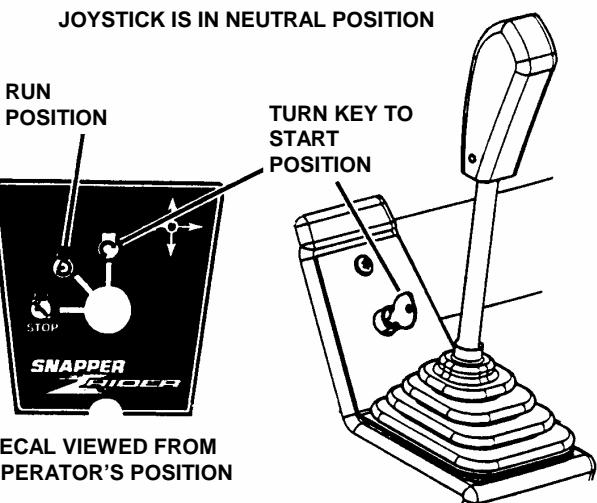

FIGURE 2.5
1. Move joystick lever to (N) Neutral position. See Figure 2.5.
3. Make certain the parking brake is engaged. See Figure 2.5.
7. Turn key to the "START" position until engine starts. See Figure 2.5. NOTE: If after 5 seconds of cranking the engine and it does not start, release the key. Attempt starting again after waiting for approximately 20 seconds.
1. Move joystick lever to (N) Neutral position. Refer to Figure 2.5.
3. Make certain the parking brake is engaged. Refer to Figure 2.5.